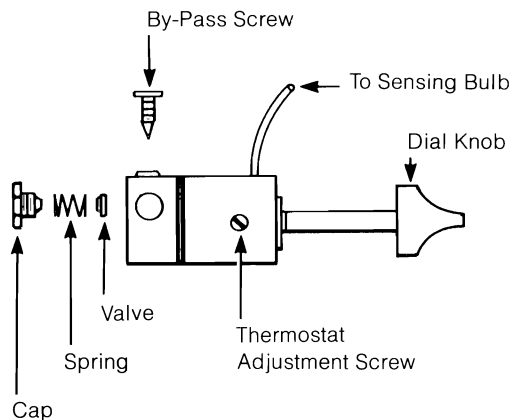

Fig. 2 - Dometic Thermostat
Problem: Flame goes out. The thermostat is out of adjustment. To adjust it, turn the dial to "zero". If the flame does not go down to the "low" by-pass setting, follow this procedure (See Fig. 2.):
2. If procedure (1) does not correct the problem, adjust the set screw out (in counterclockwise direction) until the flame goes down to the "low" position.
If the flame keeps going out when the dial is turned to (O), remove and clean the by-pass screw which is located as shown in Fig. 2.